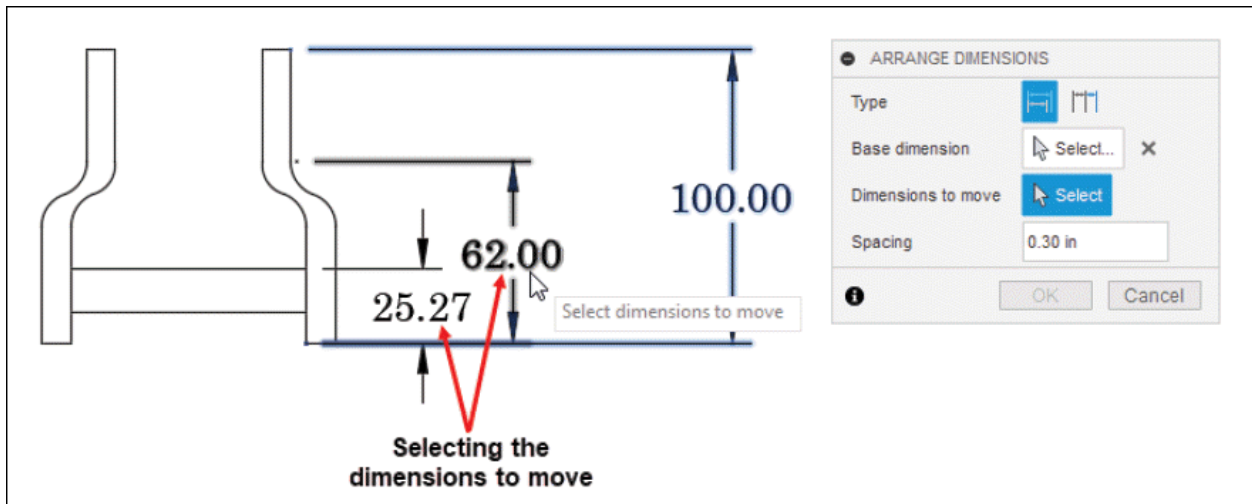

Figure-74. Selecting the dimensions to move
- After selecting the base dimension, select the other dimensions that you want to stack; refer to Figure-74.